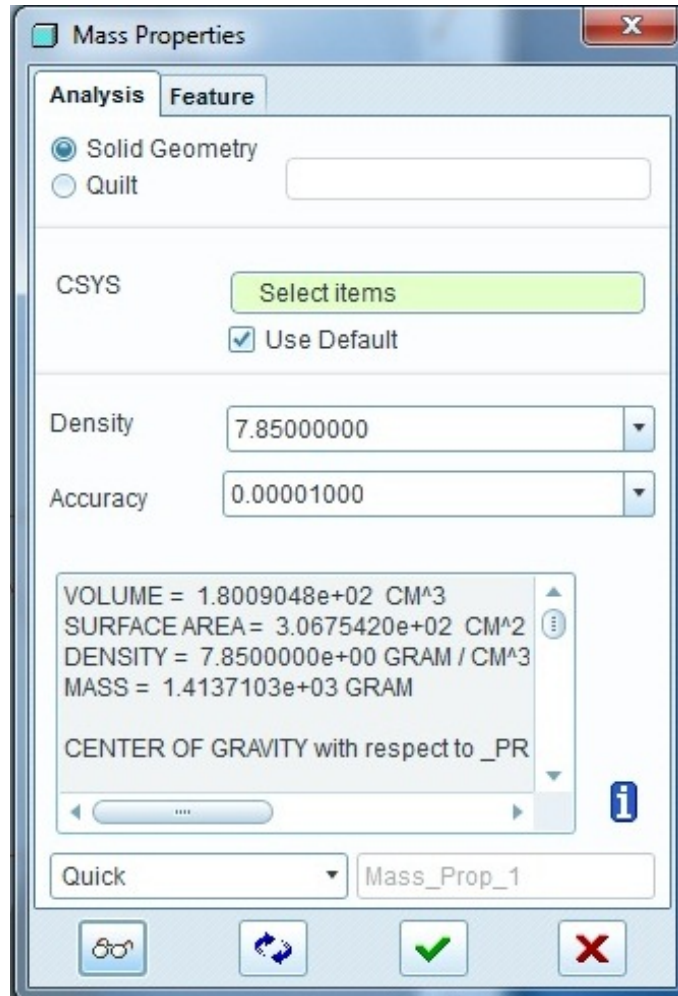

Figure 2: A 'screen shot' of the Creo Parametric window showing the volume, surface area and mass of the model.
- Take a “Screen Shot” of the window in Creo that shows the total volume, area and mass of your model (See Figure 2). Include this screen shot in an appendix of your report (see Section “IV-
- Provide a ‘screen-shot’ of the Creo Parametric window showing your solid model properties, similar to that shown in Figure 2.